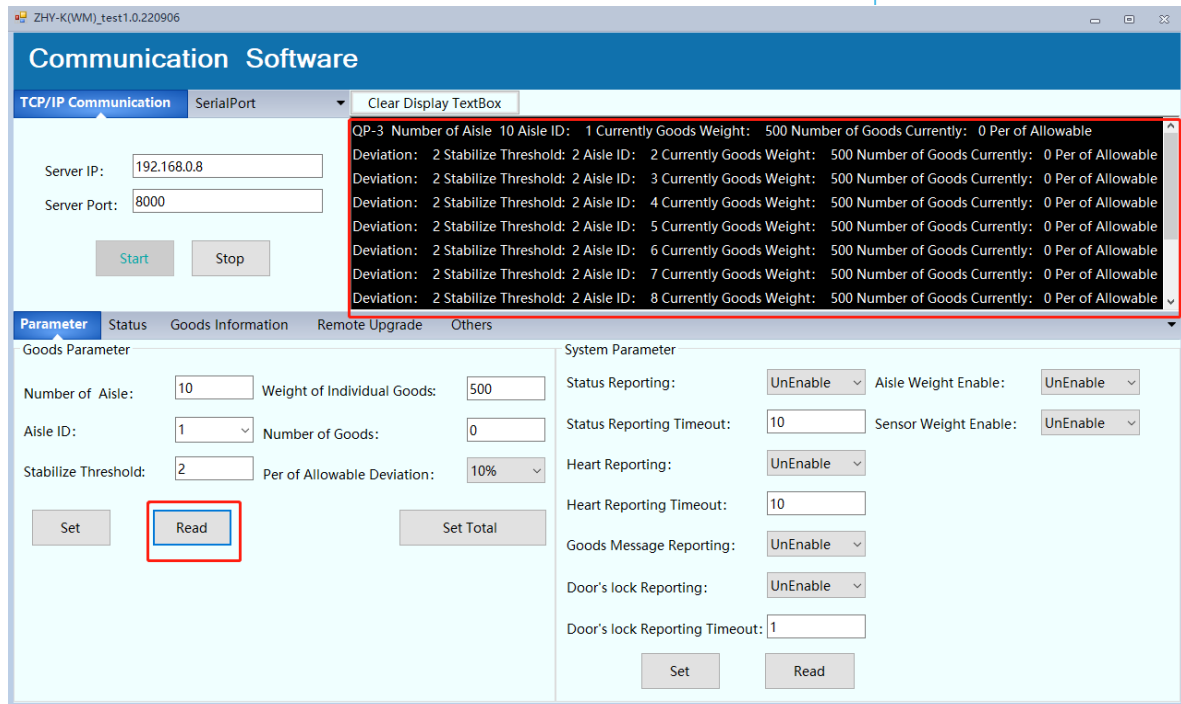

Figure 4.3 Read Button message
**A ) To read the goods information, click 'Read' button as shown in Figure 4.3.**